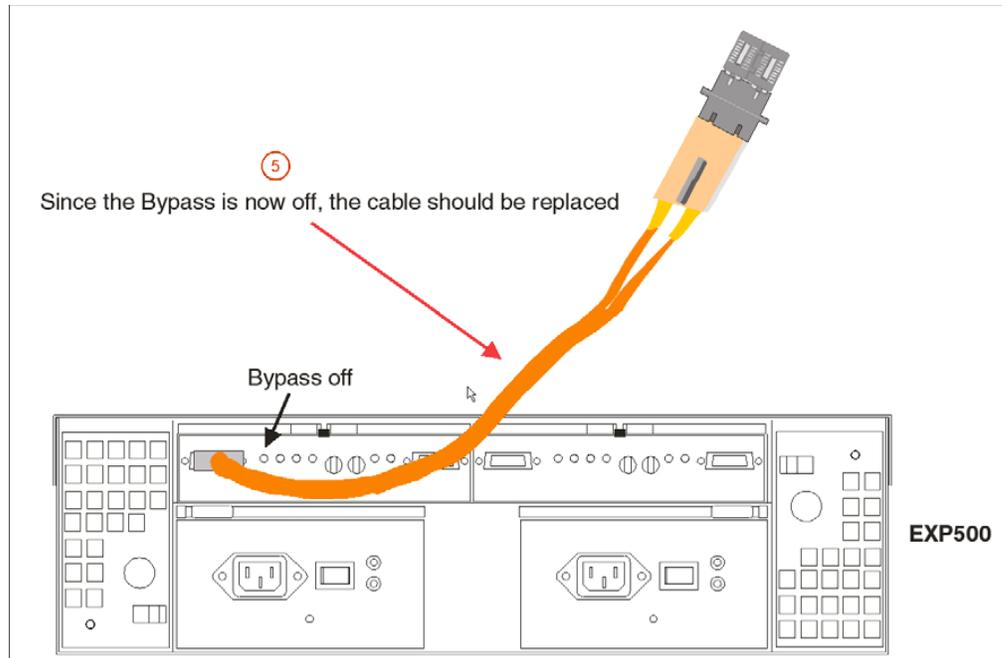

Figure 159. Insert wrap plug into element
- 5. As was shown in step 4, insert the wrap plug into the element from which the cable was removed in step 3. See Figure 159 on page 327.